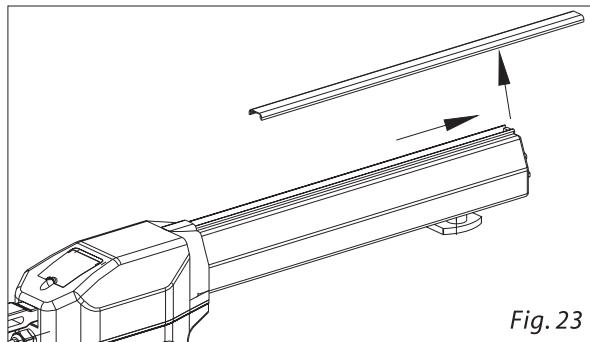

Fig. 23
- 2) Move the cover of limit switch (fig.23).